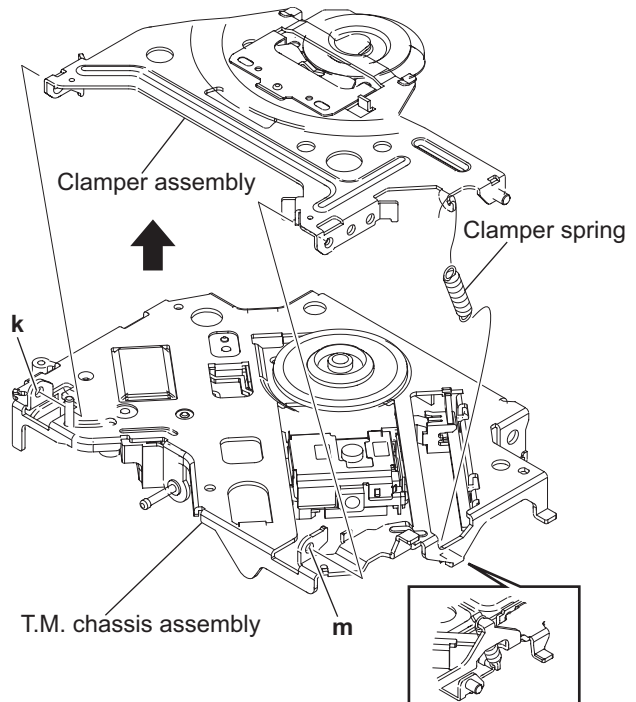

Fig.17
3.2.9 Removing the clumper assembly (See Fig.17)